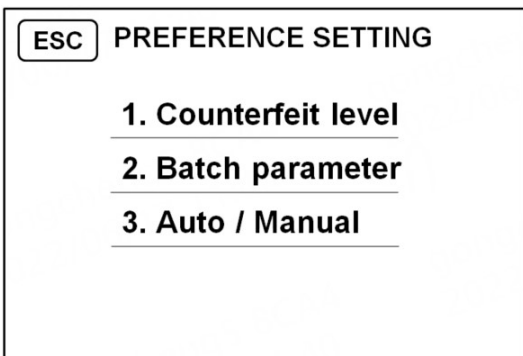
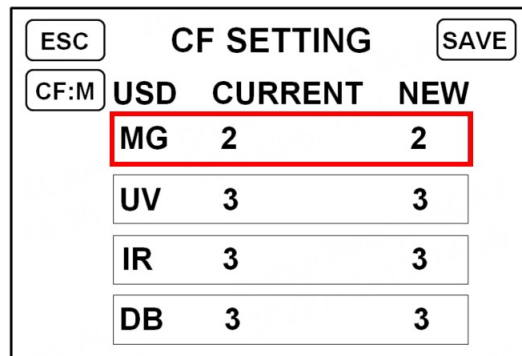

Figure 27
Figure 44
d) After clicking "SAVE" to save, the display will jump back to the interface shown in Figure 27. Touch the "1. Counterfeit level" key to enter the counterfeit detection level setting interface, and you can see that the counterfeit detection gear value of MG changes to 2, as shown in Figure 44 below: